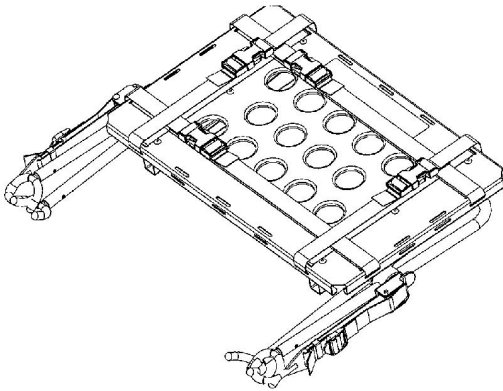

Figure 29 – Stored position
1. Place the defibrillator platform in the stored position (Figure 29).